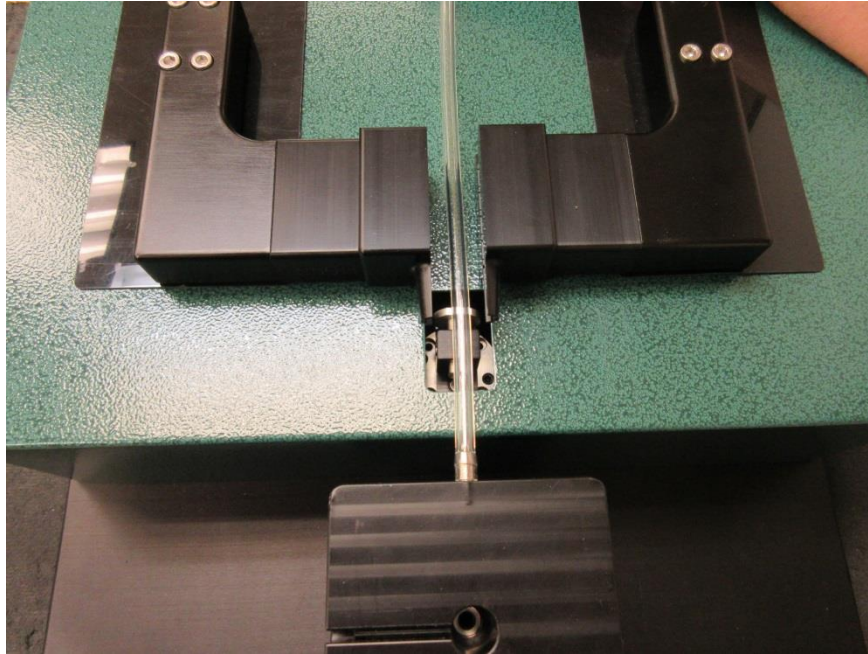

Figure 18: 'Position 2' jaws fully open.
- Ensure the machine is in **position 2** (Figure 18: jaw mounts forward and fully open).
- Attach each jaw using two (2) M5 x 35mm socket head cap screws.
- Hold the anti-tiedown buttons and the machine will push the tubing onto the fitting and the jaws will fully open (Figure 18, position 2), allowing removal of the assembled components.